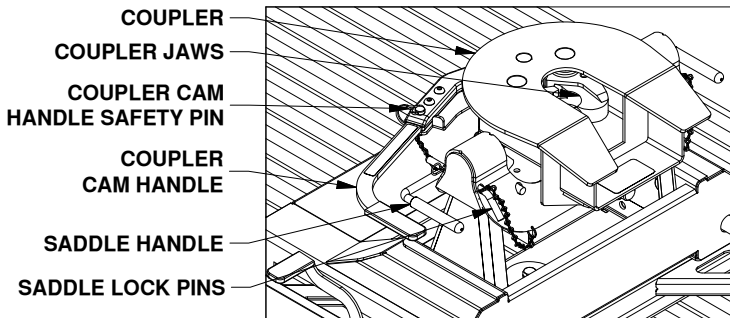

Figure F1: View of Slider Base and Coupler Head assembled.
1. Lubricate the polyurethane bushings on top of pivot arms with high grade lithium grease (available at your local hardware/automotive store). Place the coupler over the pivot arms. (The saddle handles should be parallel with the Slider Base in the latched position.) Place the saddle lock pins through the saddle, then insert the hair pins through the holes in the end of the saddle lock pins to secure the coupler to the pivot arms, see Figure F1.